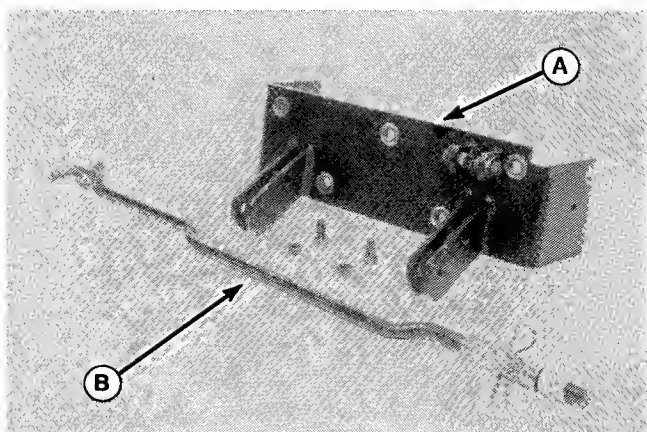

Figure 27.
1. Prior to tiller installation, tractor must be equipped with the Hitch and Lift Rod Kit (A and B, Figure 27). Refer to Hitch Kit instructions for setup procedures.